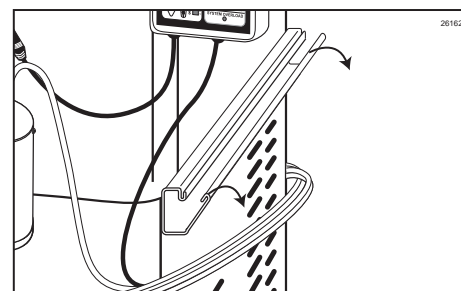

Figure 144
5. Pry open the 9-Tube Assembly Casing. (See Figure 144.)